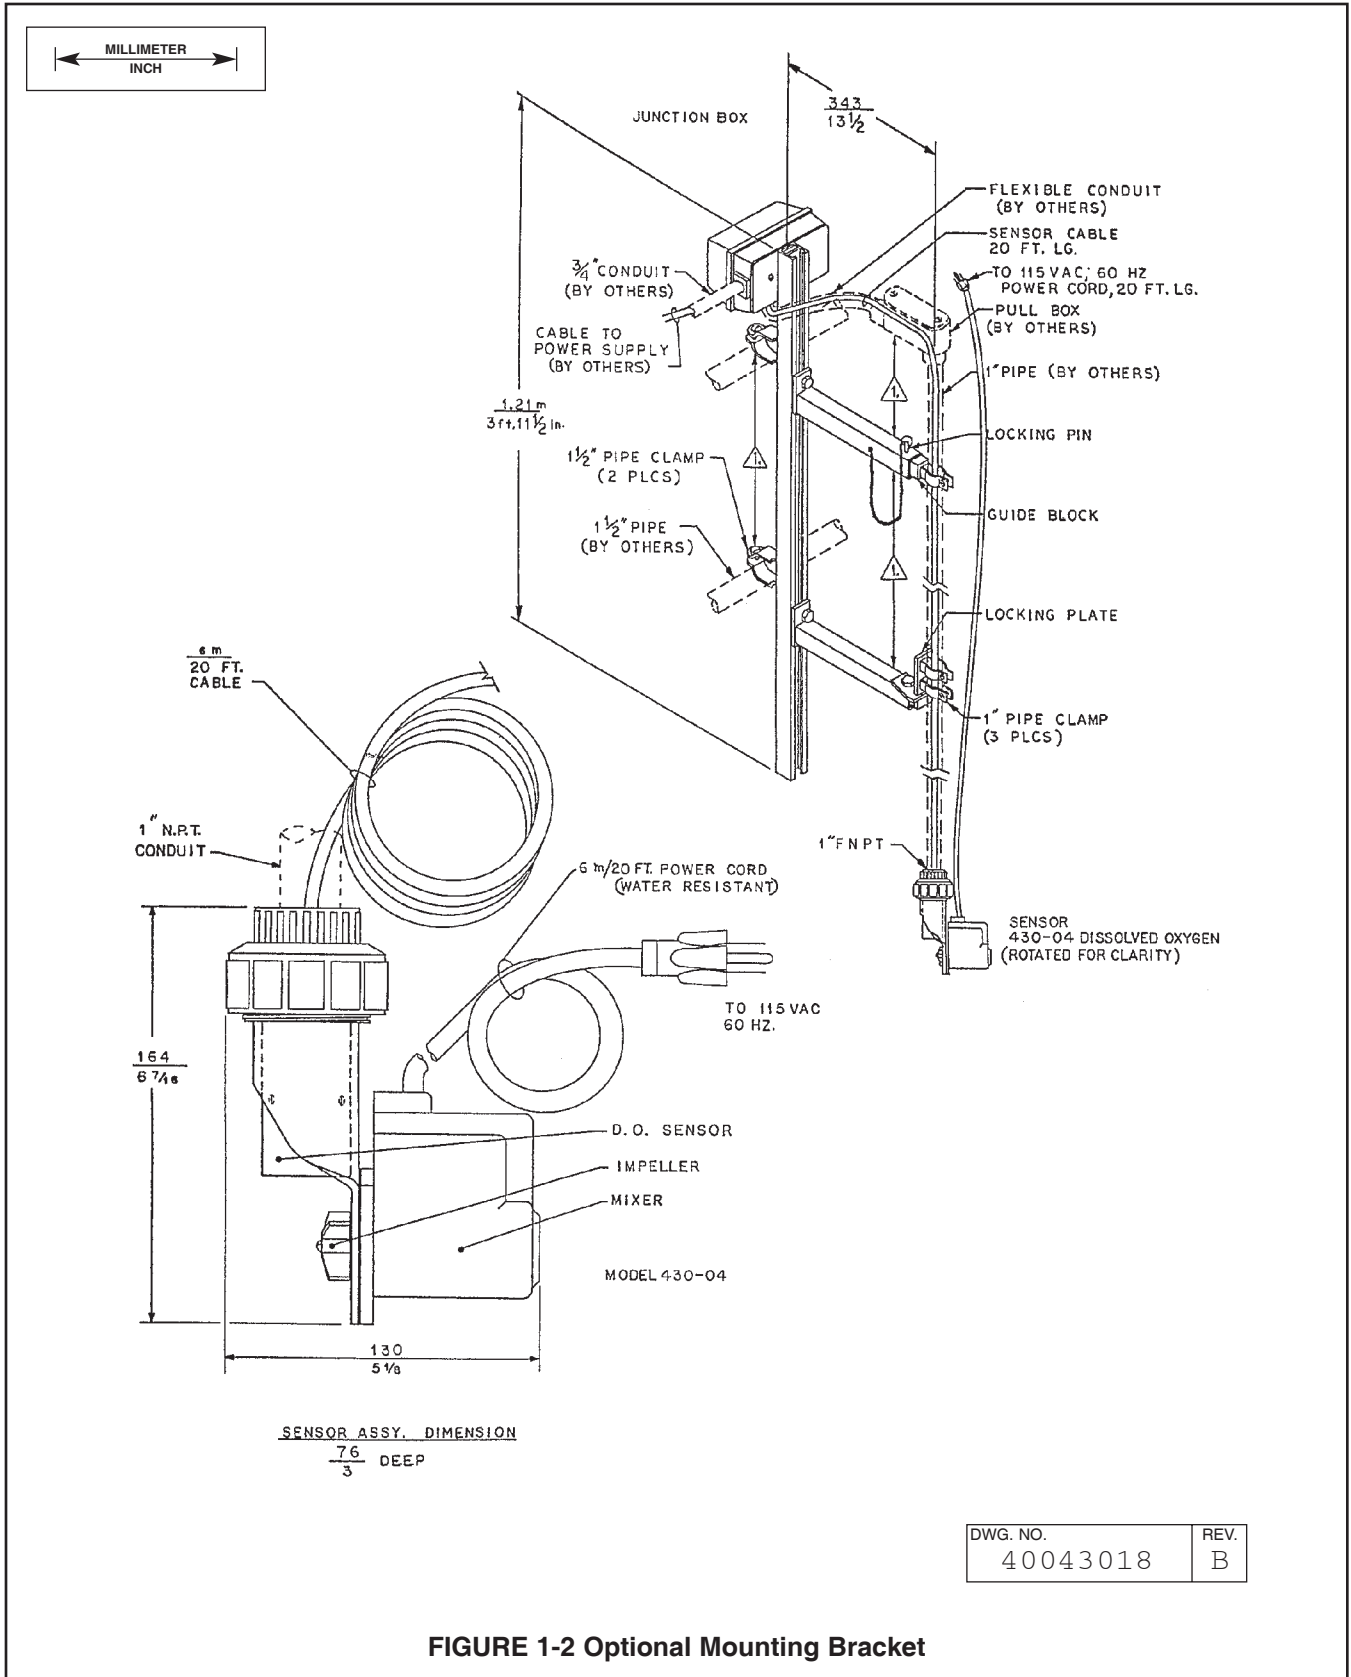

FIGURE 1-2 Optional Mounting Bracket
2.3 MECHANICAL INSTALLATION. The sensor comes in four different configurations. Follow the instruction for the configuration being installed. See Figure 2-2 for dimensions. Figure 1-2 illustrates optional bracket assembly for sensor installation in tanks or ponds.